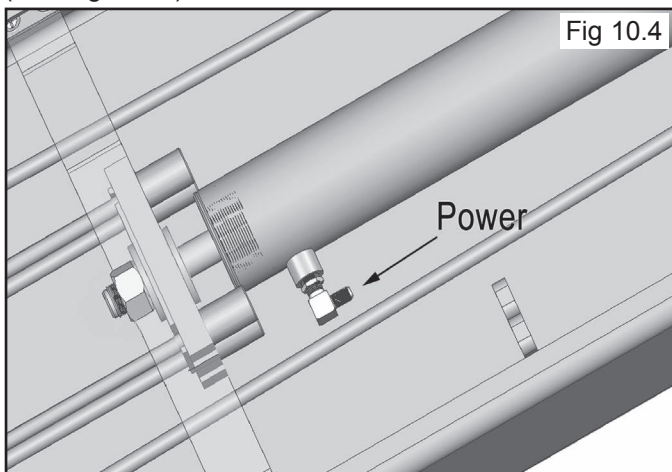

Fig 10.4
3. Install the 90-degree Hydraulic Fitting in the port at the ram end of the Cylinder. On the pipe thread side of the Fitting it is recommended to use Teflon Tape or pipe sealer. **DO NOT USE TEFLON TAPE on the JIC flared end.** (See Fig. 10.4)